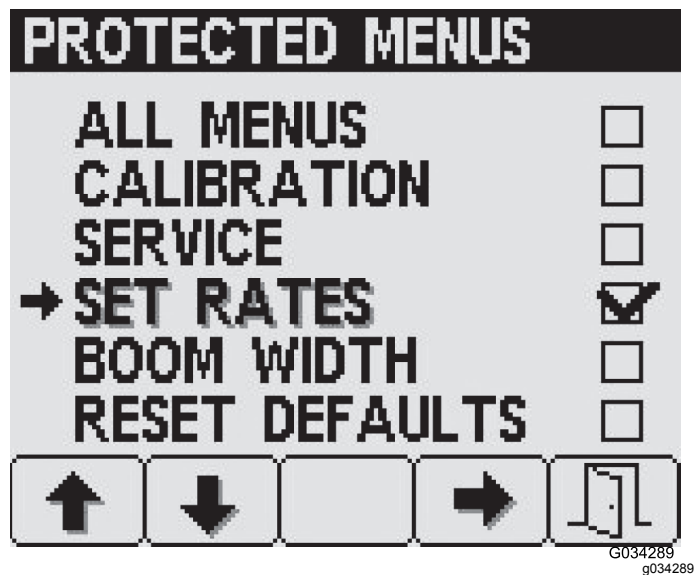

Figure 23
3. Press button 4 to select and deselect each protected menu item (Figure 23).